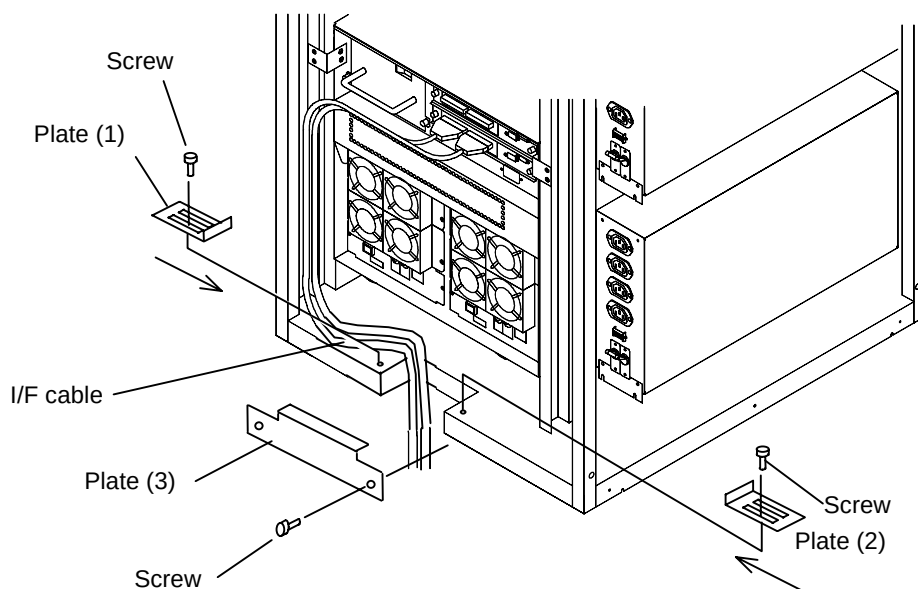

Figure 3.4.12 Fixing I/F Cable
3.4.10 Fixing I/F cables of subsystems (See Figure 3.4.12.)
- ① Loosen the screws, and remove plates (1), (2) and (3).
- ② Pass the I/F cable through the hole onto the floor. Tighten two screws. Attach plate (3).
- ③ Press the plates (1) and (2) against the cable in the direction of the arrows (→), and tighten four screws.